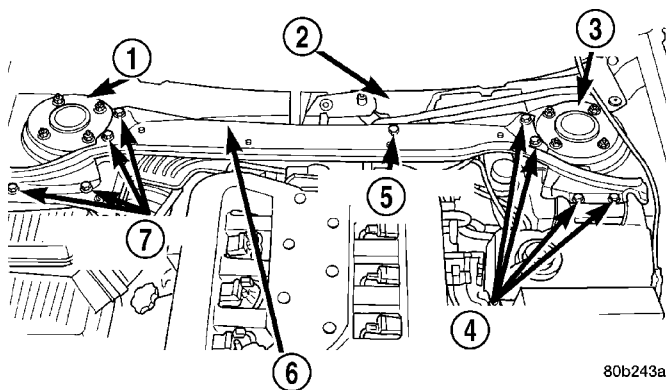
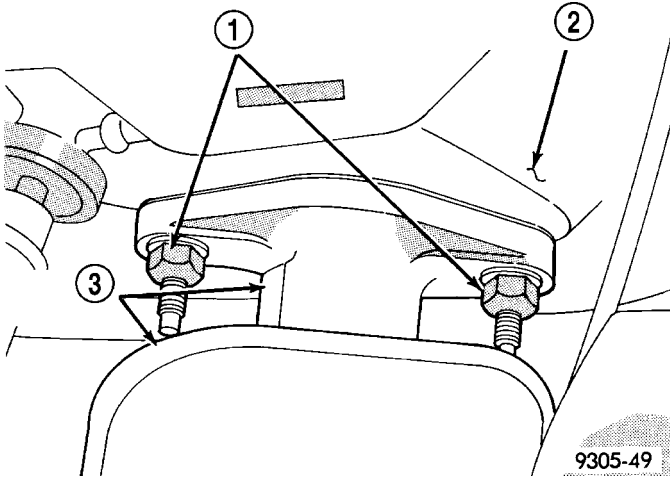

Fig. 77 Reinforcement Attachment To Vehicle
Fig. 78 Master Cylinder Mounting
(5) Remove the 8 bolts, attaching the reinforcement (Fig. 77) to the strut towers and the 1 bolt (Fig. 77) attaching the wiper module to the reinforcement. Remove the reinforcement from the vehicle.
(6) Disconnect the wire connector from the brake fluid level sensor on the right side of the master cylinder reservoir.
(7) Remove the 2 nuts (Fig. 78) attaching the master cylinder to the vacuum booster.
(6) Install and tighten the 2 master cylinder to booster mounting nuts (Fig. 78) to 28 N·m (250 in. lbs.) torque.
(7) Reconnect brake fluid level sensor connector.
(8) Connect all vacuum hoses onto the booster vacuum check valve.
(9) Check brake lamp switch operation.
(10) Install the wiper module reinforcement on the vehicle (Fig. 77). Install the 8 bolts, attaching the reinforcement to the strut towers. Install the bolt attaching the wiper module to the reinforcement.